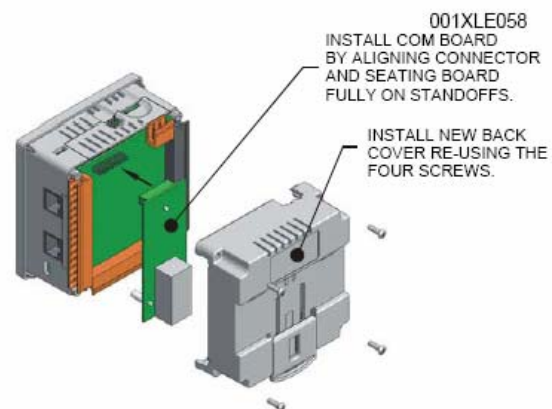

Figure 2 - Installing the COM Board in the XLE
3. Plug the communication board onto the 24-pin connector. Make sure all the pins are properly aligned (Figure 2).
5. Place the screw back into the hole and turn the screw slowly counter clockwise until it clicks into the threads. This prevents the screw from being cross-threaded. Now, turn the screw clock-wise until the cover is firmly secured. Repeat this process for all four (4) screws.